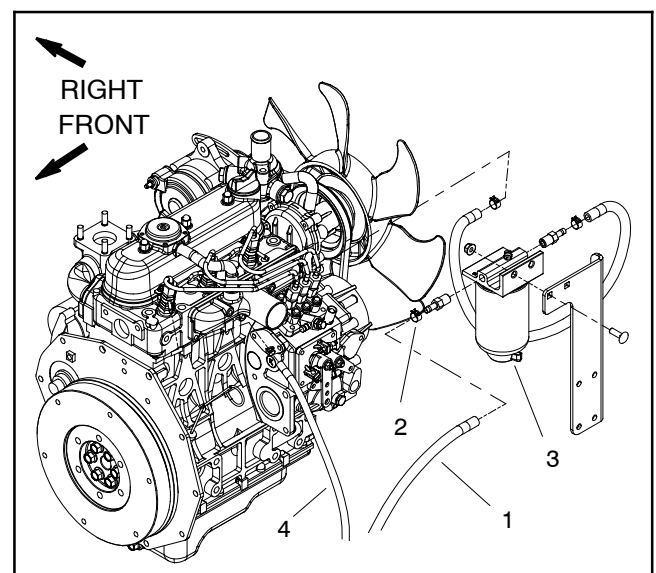

Figure 85
3. Disconnect fuel hose (pump discharge) from the fuel/water separator inlet fitting (Fig. 85).